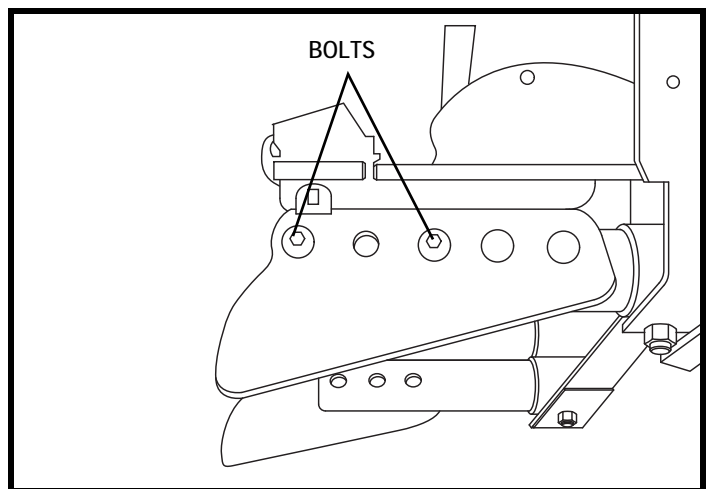

Figure 54. Kids FAST Glide Rest in Position 1
- For seat depths 10 in. (25.4 cm) or less, glide rests must be installed in position 1. See figure 54.